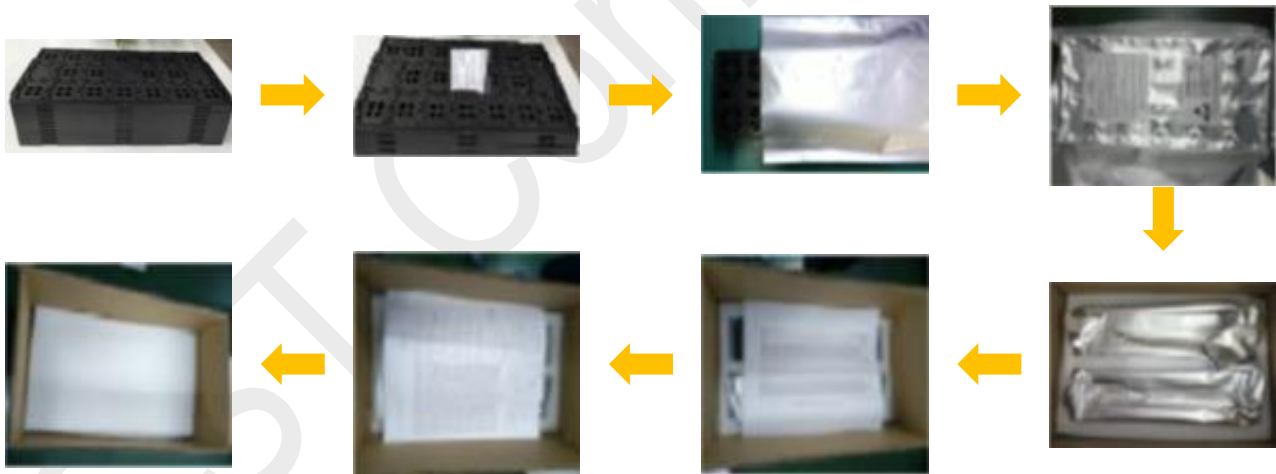

Figure 4-2. Stacking of Trays & Carton Packaging
- Refer to Figure 4-2 for stacking of trays.